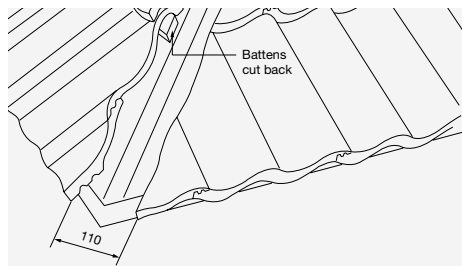

Fig. 1a – If using low profile tiles (depth <85mm) form a gap of 110mm at hip
- 3 If using low profile tiles with depth from rafters to top of tile of <85mm, the battens need to be cut back to the width of 110mm and the hip batten section screwed directly to the roof structure (Fig 1a).